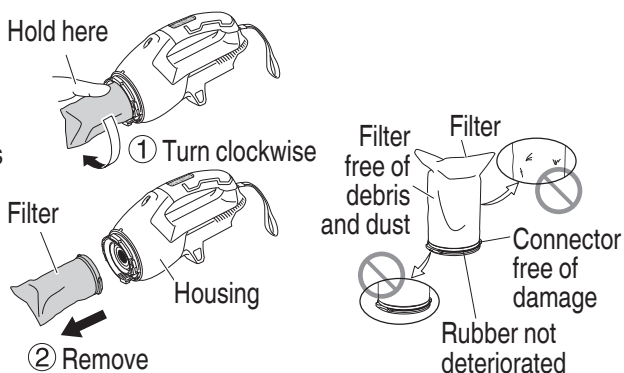

Fig. 9
- (2) Remove the filter. (**Fig. 9**)